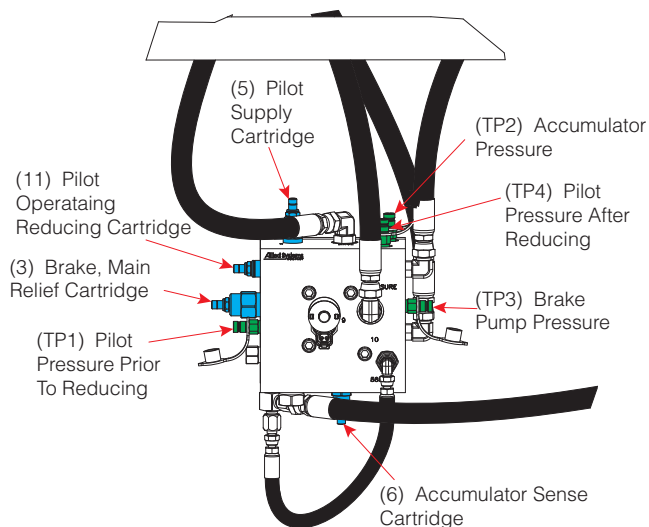

Figure 2 - Accumulator Charge Manifold
7. Engine OFF, attach pressure gauge at test port TP1 (see Figure 2).
1. Engine OFF, attach pressure gauge at TP2, accumulator circuit (see Figure 2).